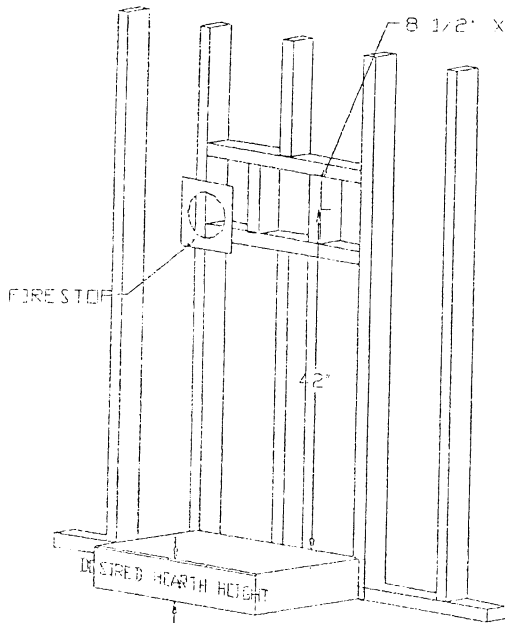

Figure 3A
4. Cut a hole for the firestop, 8 1/2" (216 mm) x 8 1/2" (216 mm). The center of this hole must be a minimum of 42" (1067 mm) above the height of the hearth. See Figure 3A.